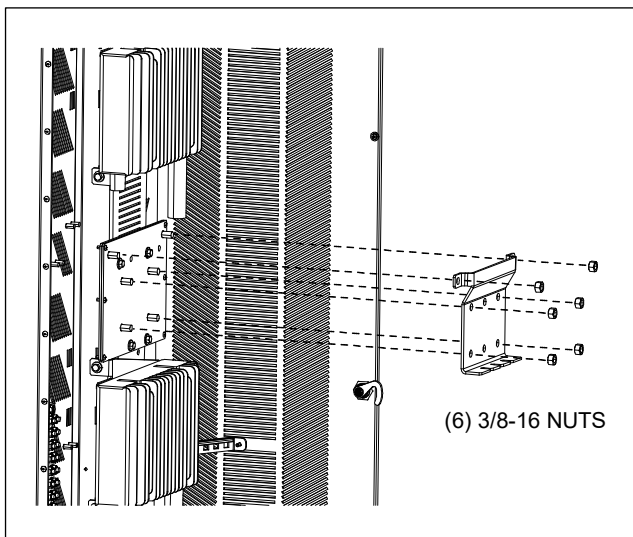

Figure 9
1. Attach one of the hanging bracket base plates to the upper support plate. Secure using six 3/8-16 nuts (Figure 9).